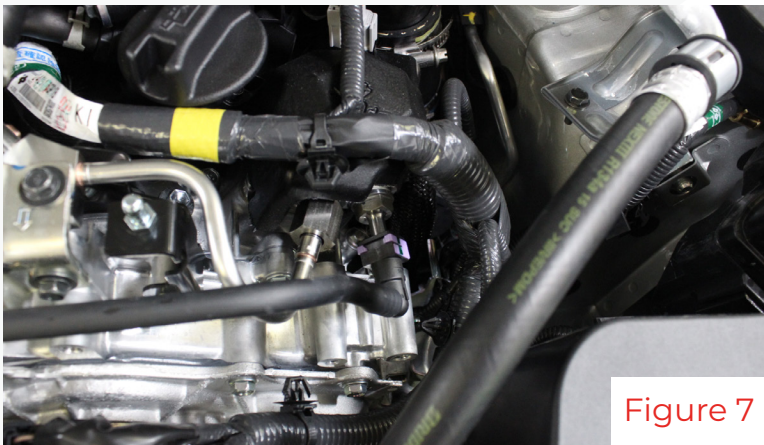

Figure 7
5. Release the purple clip and disconnect the fuel line from the HPFP(fig 7 & 8).